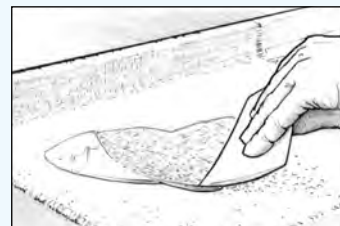

Figure 29 Spread the epoxy over the cloth surface with a plastic spreader.
5. Spread the epoxy over the cloth surface with an 808 Plastic Squeegee, working the epoxy gently from the pool into the dry areas (*Figure 29*). As the fabric is wet out it becomes transparent, indicating the cloth has absorbed sufficient epoxy. If applying cloth over a porous surface, ensure that sufficient epoxy is left to absorb into both the cloth and the surface below. Try to limit the amount of squeegeeing as excessive "work" on the wet surface produces minute air bubbles which are placed in suspension in the epoxy. This is especially important if a clear finish is required.